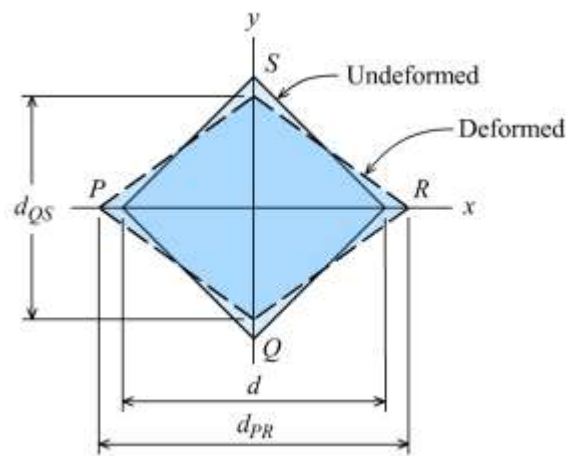

FIGURE P2.15
**P2.15** A thin square plate  $PQRS$  is symmetrically deformed into the shape shown by the dashed lines in Figure P2.15. The initial length of diagonals  $PR$  and  $QS$  is  $d = 295$  mm. After deformation, diagonal  $PR$  has a length of  $d_{PR} = 295.3$  mm, and diagonal  $QS$  has a length of  $d_{QS} = 293.7$  mm. For the deformed plate, determine: